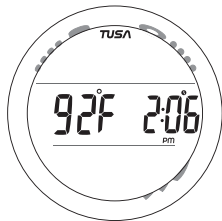

Fig. 94 - FREE SURF ALT 2
**Free Surface ALT 2** information includes (Fig. 94) -